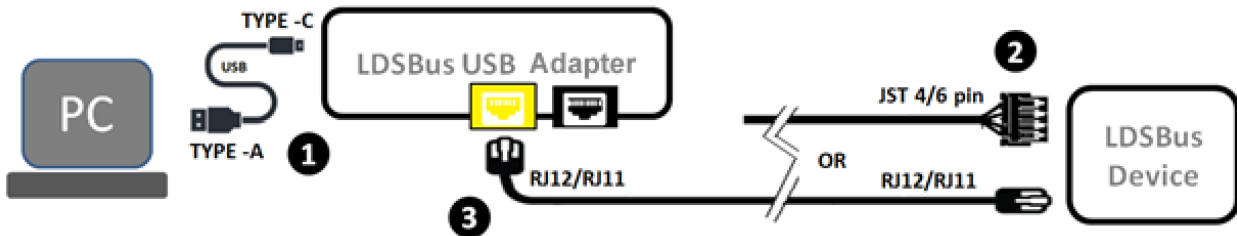

Figure 2 – LDSBus Device (Sensors / Actuators) Configuration
Figure 2 illustrates the connection of the LDSBus USB Adapter based on the applications.
3. Attach the other end of the cable to the LDSBus USB Adapter as shown in Figure 2.